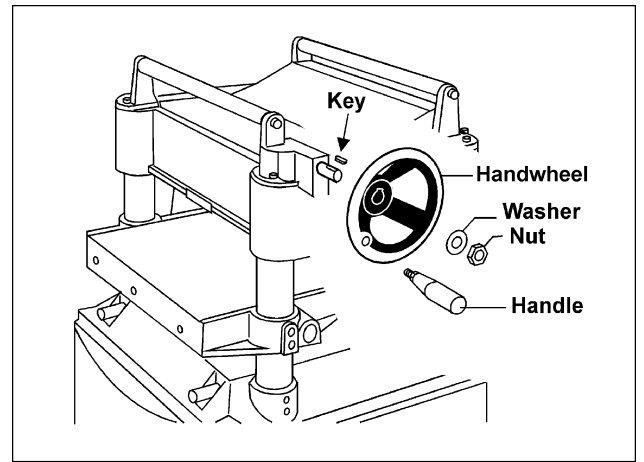

Fig. 8
1. Remove the nut and washer from the gearbox shaft, and place the handwheel onto the shaft (Fig. 8), making sure it is oriented so the handwheel slips over the key.